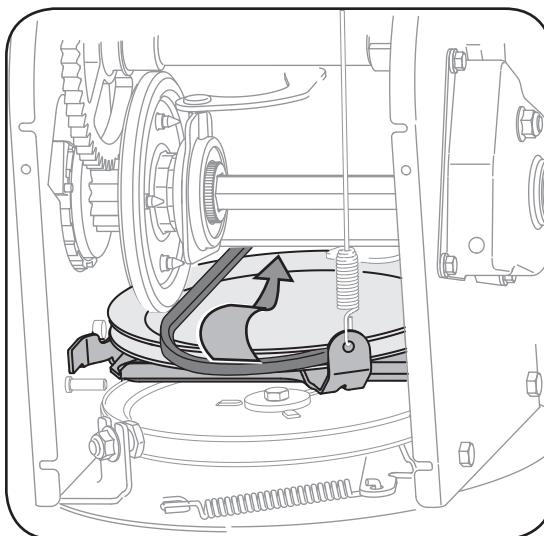

Figure 27
2. Slip the drive belt off the pulley and between friction wheel and friction wheel disc. See Figure 27.